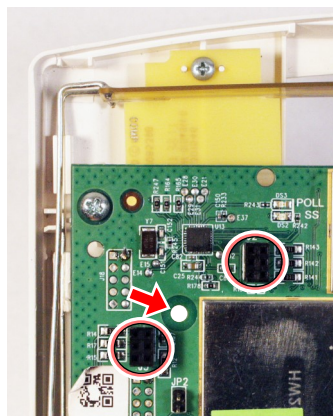

Fig. 6: "Header Sockets" (circled)
10. Use Fig. 6 to locate the two **Header Sockets** located near the top left side of the Hub PCB (circled). Also locate the **Standoff hole** (arrow).
11. With the small Antenna Wire Plug located at the top of the **ISEC-WIFI** PC board, carefully align the Standoff with its hole, and align the two **Header Plugs** with their **Header Sockets** (Fig. 6). Firmly press the **ISEC-WIFI** into the PC board.